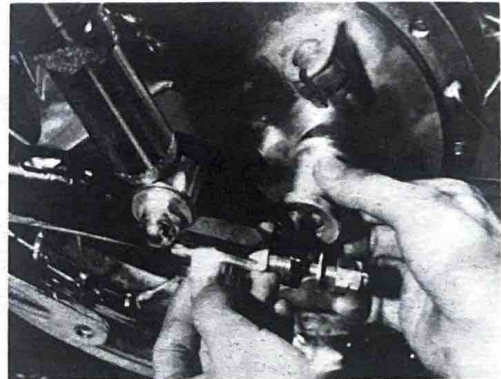

Fig. 5-2-8
- 5) Remove the right-hand chain puller and distance collar. (Fig. 5-2-8)